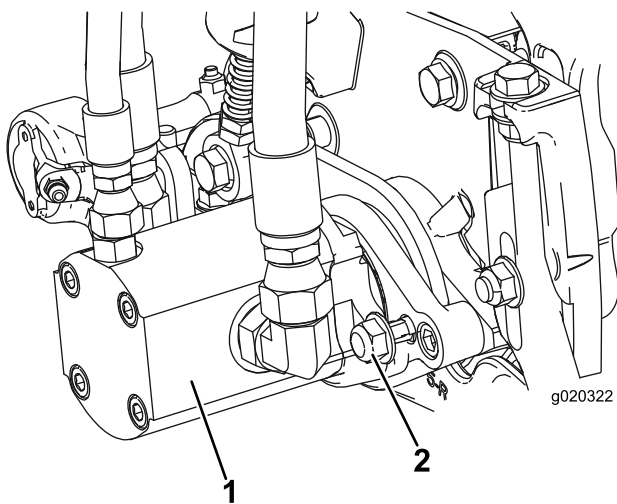

**Figure 10**
13. Secure the lift-arm chain to the chain bracket with the snapper pin (Figure 10).